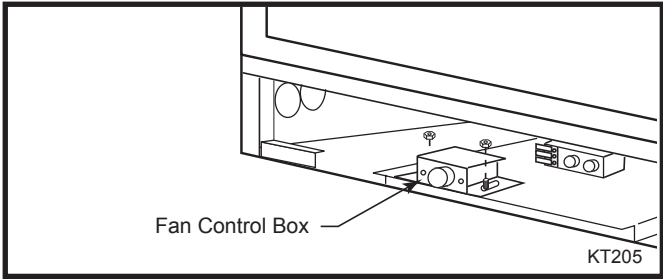

Fig. 62 Remove fan control box.
- a. Remove the Fan Speed Control Box. (Fig. 62)